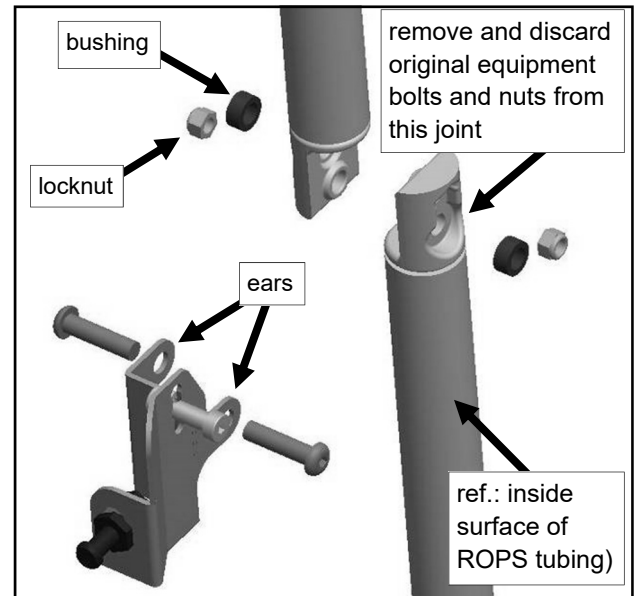

Fig. 1.7 (view of driver's side from driver's seat)
1.7 Remove and discard the two original equipment bolts and nuts from the front ROPS (Roll-Over Protective Structure) tubing as shown in figure 1.7. New bolts, nuts, and steel bushings are provided. Have the following hardware ready: two 3/8-16 x 1-3/4" long button head bolts, two steel bushings, and two locknuts (3/8-16). Per fig. 1.7, orient and install the front mount on the driver's side as follows: the steel bushings are to be installed in the upper outside cavity and the lower inside cavity. These are to fill voids and support the ears on the front mount. See fig. 1.7.1 for a completed view of this assembly. Install the new nuts into the open cavities. Install the new bolts through the ears of the front mount, through the steel bushings, through the ROPS tubing and engage into each of the locknuts.